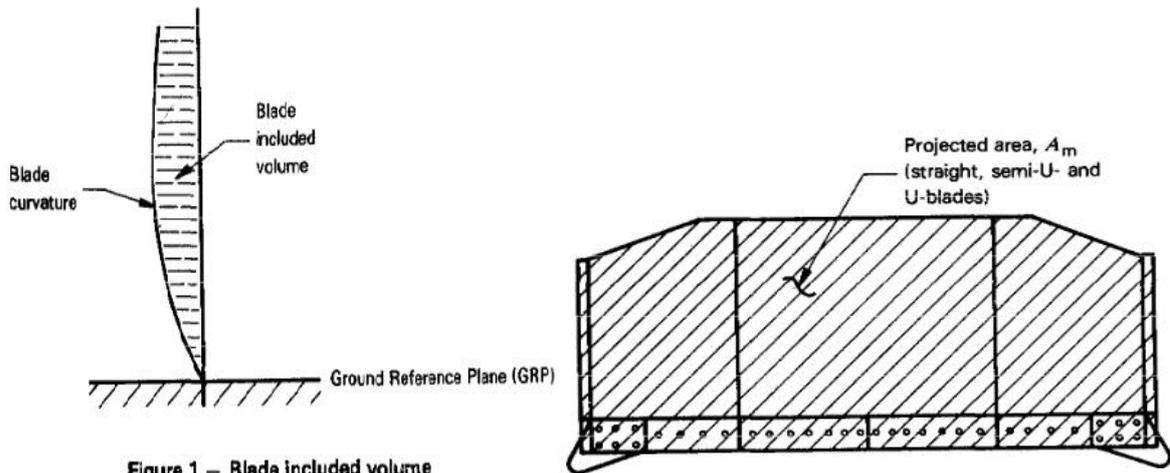

Figure 1 – Blade included volume
1.2 This International Standard applies to all types of dozers that are mounted on all tractors defined in ISO 6747. This includes straight, angling, semi-U-, and U-blade configurations. It is assumed that the blade face is flat and vertical; the blade included volume is not considered (see figure 1).